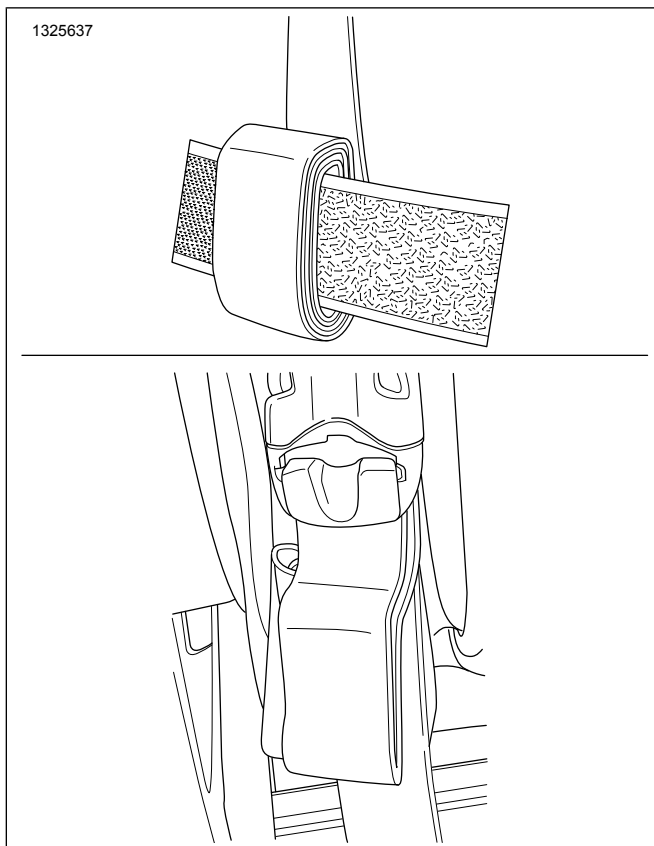

Figure 4. Excess Strap Material
7. See Figure 4. Roll up and secure any excess strap material using hook-and-loop tabs to prevent straps from contacting the rear wheel or scratching or scuffing painted surfaces.